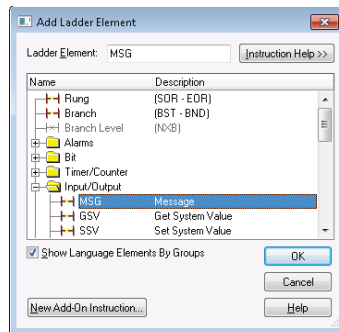

Figure 57: Adding a MSG Instruction
- Select the “MSG” instruction in the Input/Output folder. Refer to Figure 57.